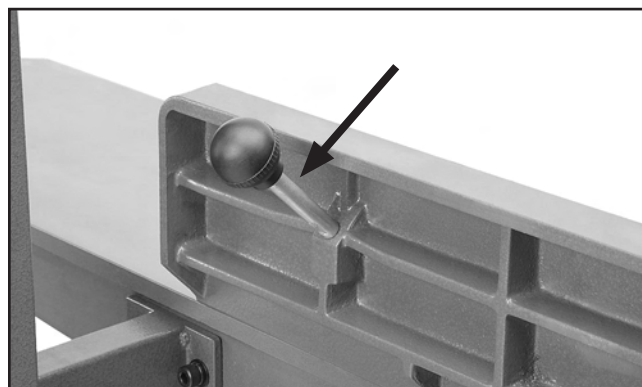

Figure 13. Fence tilt lever installed.
17. Install the fence tilt lever, as shown in **Figure 13**.